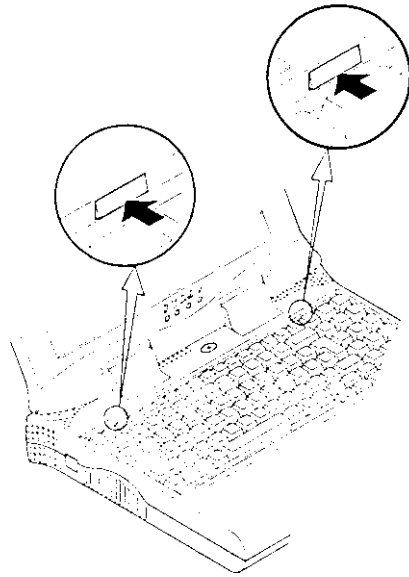

Figure 2-2
2. Press the two keyboard latches so that the keyboard can be elevated from its normal position (Figure 2-2).